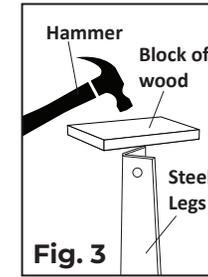

Fig. 3
3. Use a hammer and a block of wood to drive each leg into the tapered socket until it is secure (see Fig. 3).